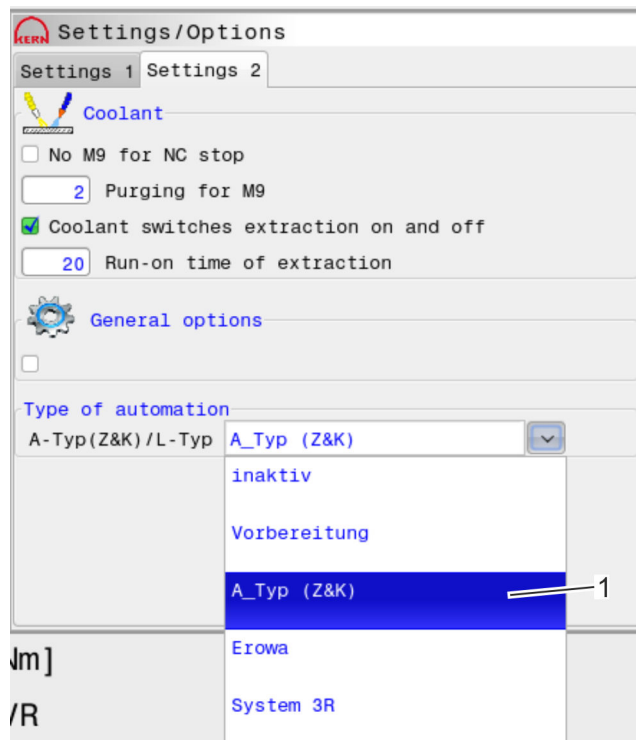

Fig. 77: Automation
2. ➔ Select the setting [A\_Typ (Z&K)] (Fig. 77 in the settings 2 window).